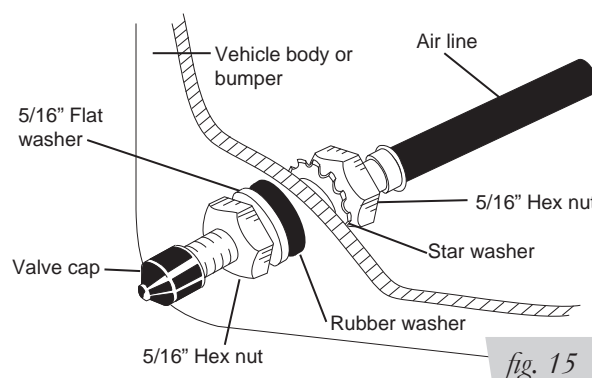

fig. 15
4. Place a 5/16" nut and star washer on the air valve. Leave enough of the inflation valve in front of the nut to extend through the hole and have room for the rubber washer, flat washer, and 5/16" nut and cap. There should be enough valve exposed after installation—approximately 1/2"—to easily apply a pressure gauge or an air chuck (fig. 15).